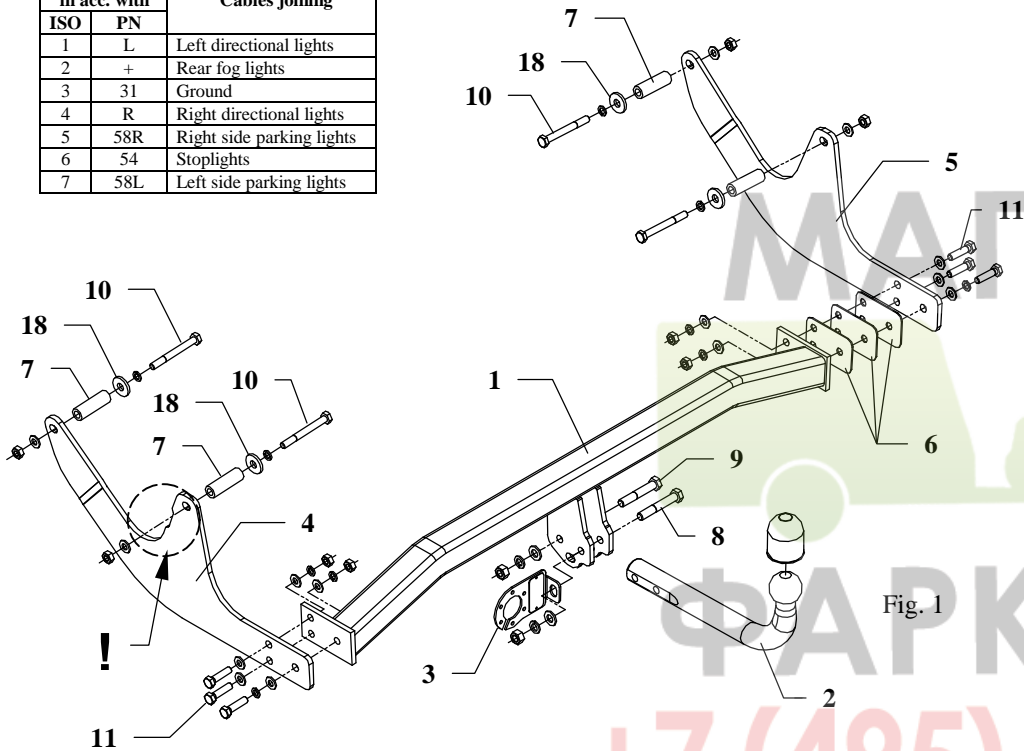

Fig. 1
3. To holes (from inside) put distance sleeves (pos. 7) with big washers (pos. 18) and bolts M10x90mm (pos. 10) as shown on the drawing 2.
4. From below the car, on protruding bolts M10 put side brackets pos. 4 and 5. Twist loosely.
5. Between mounted side brackets put main bar of the towing hitch (pos. 1) and fix with bolts M10x40mm (pos. 11) according to figure 1. Remember about fish-plates (pos. 6) on the right side!
7. Fix tow-ball (pos. 2) using bolts M12x75mm (pos. 8) and M12x70mm (pos.9) from accessories.